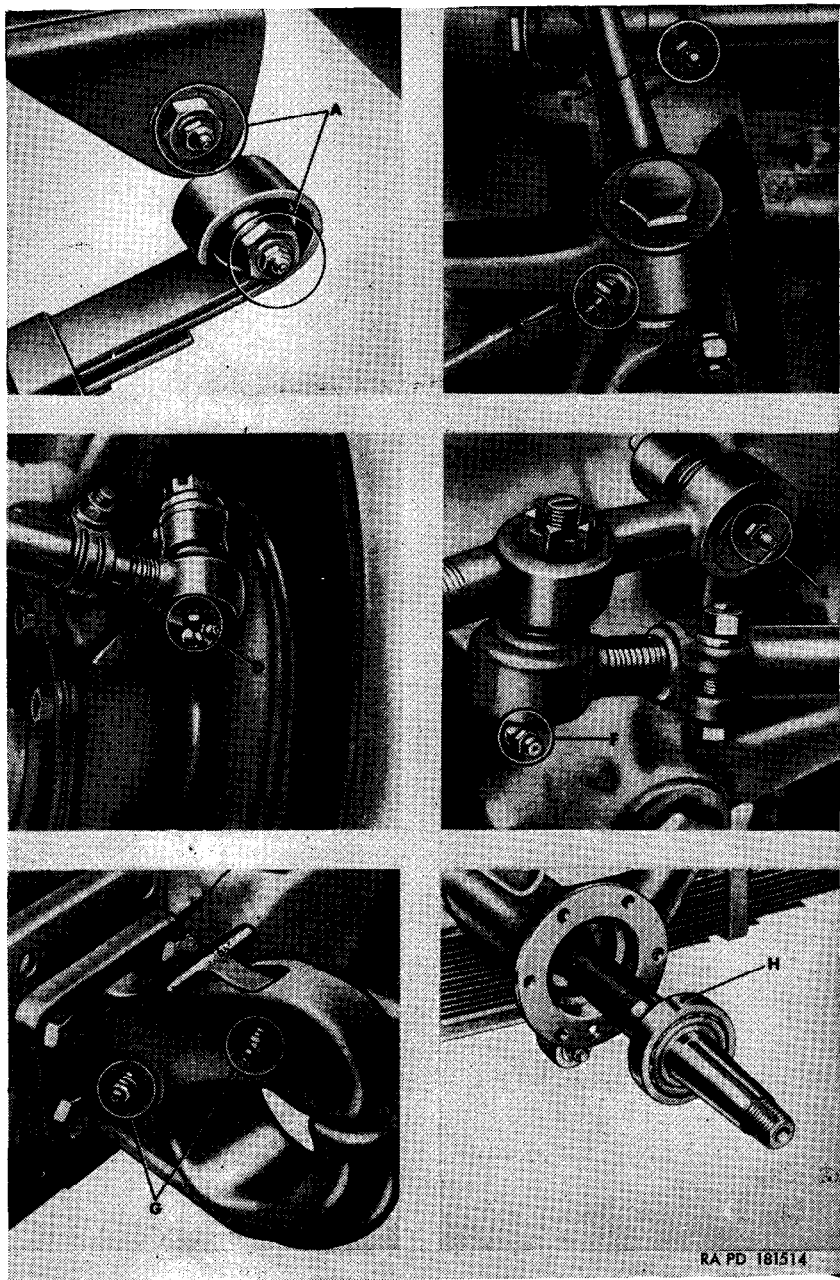

Figure 31. Localized lubrication points A through H.
- (1) Lubrication fittings, grease cups, oilers and oilholes are shown in figures 31 through 34 and are referenced to the lubrication chart. Wipe these devices and the surrounding surfaces clean before and after lubricant is applied.
- (2) A $\frac{3}{4}$ -inch red circle should be painted around all lubricating fittings and oilholes.
- (3) Clean and lubricate unsealed bearings as shown below.